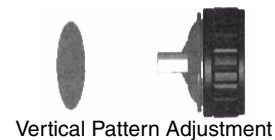

FIG. 2
1. Rotate air cap to change spray pattern direction. FIG. 2.